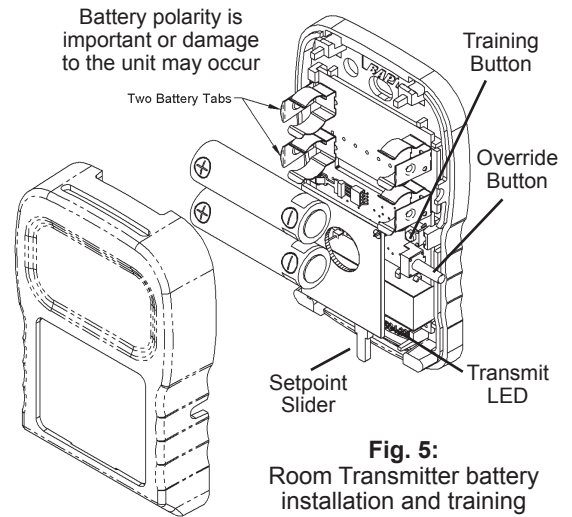
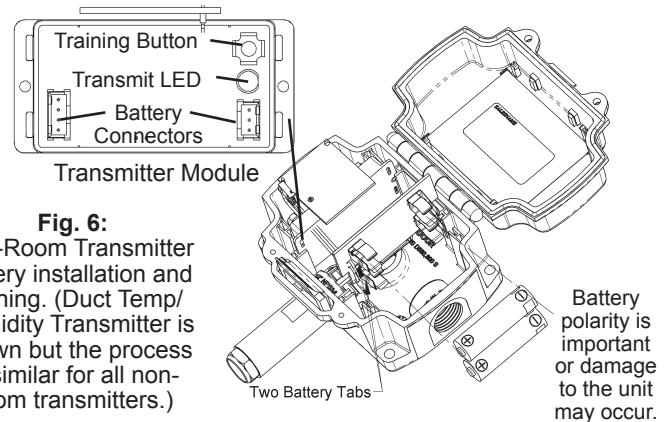
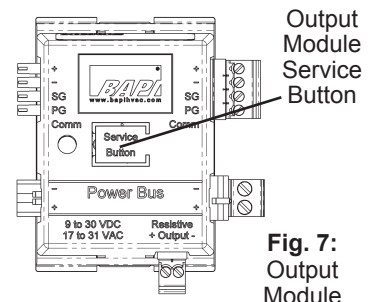

Fig. 5:
Fig. 6:
Fig. 7:
3. Remove the cover of the room transmitter and remove the battery tabs or install the batteries, observing polarity as shown in Fig 5. Or open the cover of the BAPI-Box on non-room transmitters and remove the battery tabs or install the batteries as shown in Fig 6. The "transmit LED" will flash about once every 20 seconds, indicating a transmission.
4. Press and hold down the "Service Button" on the top of the output module (Fig 7) that you wish to train. Then, press and release the "training button" (Fig 5 & 6) on the transmitter. When the output module receives the "training transmission" from the transmitter, the output module's red LED will light steady. Release the "Service Button" on the output module and the red LED will go out. The transmitter and output module are now trained to each other. During normal operation, the output module's LED will flash about once every 20 seconds indicating data reception from the transmitter trained to it.
3. Remove the cover of the room transmitter and remove the battery tabs or install the batteries, observing polarity as shown in Fig 5. The "transmit LED" will flash about once every 20 seconds, indicating a transmission.
4. Press and hold down the "Service Button" on the top of the output module (Fig 7). Then, press and release the VERRIDE button on the transmitter (Fig 5). (Note: If the unit was not ordered with an override function, then the VERRIDE button will be shorter and will not extend outside the case but will still be accessible upon removing the cover.) When the output module receives the "Training Setpoint" info from the transmitter, the output module's red LED will light. Release the "Service Button" on the output module and the red LED will go out. The transmitter and output module are now trained to each other. During normal operation, the output module's LED will flash about once every 20 seconds indicating data reception.